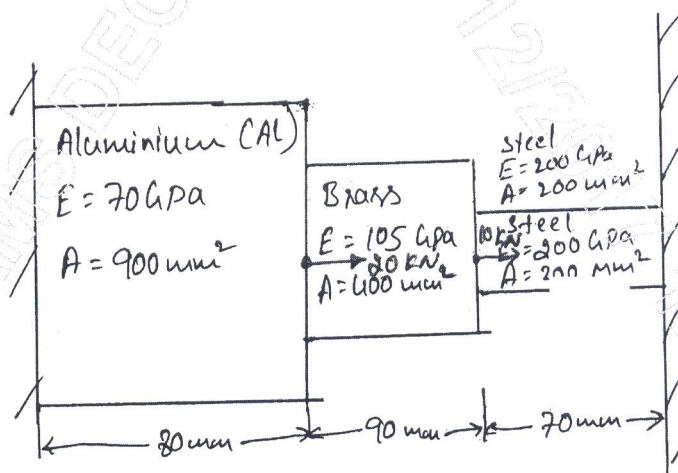

Fig Q5(a)
5. a. For a 3 stepped bar as shown in Fig. Q5(a) determine the displacement at nodes 2 and 3 stress in three sections and reactions at the ends.